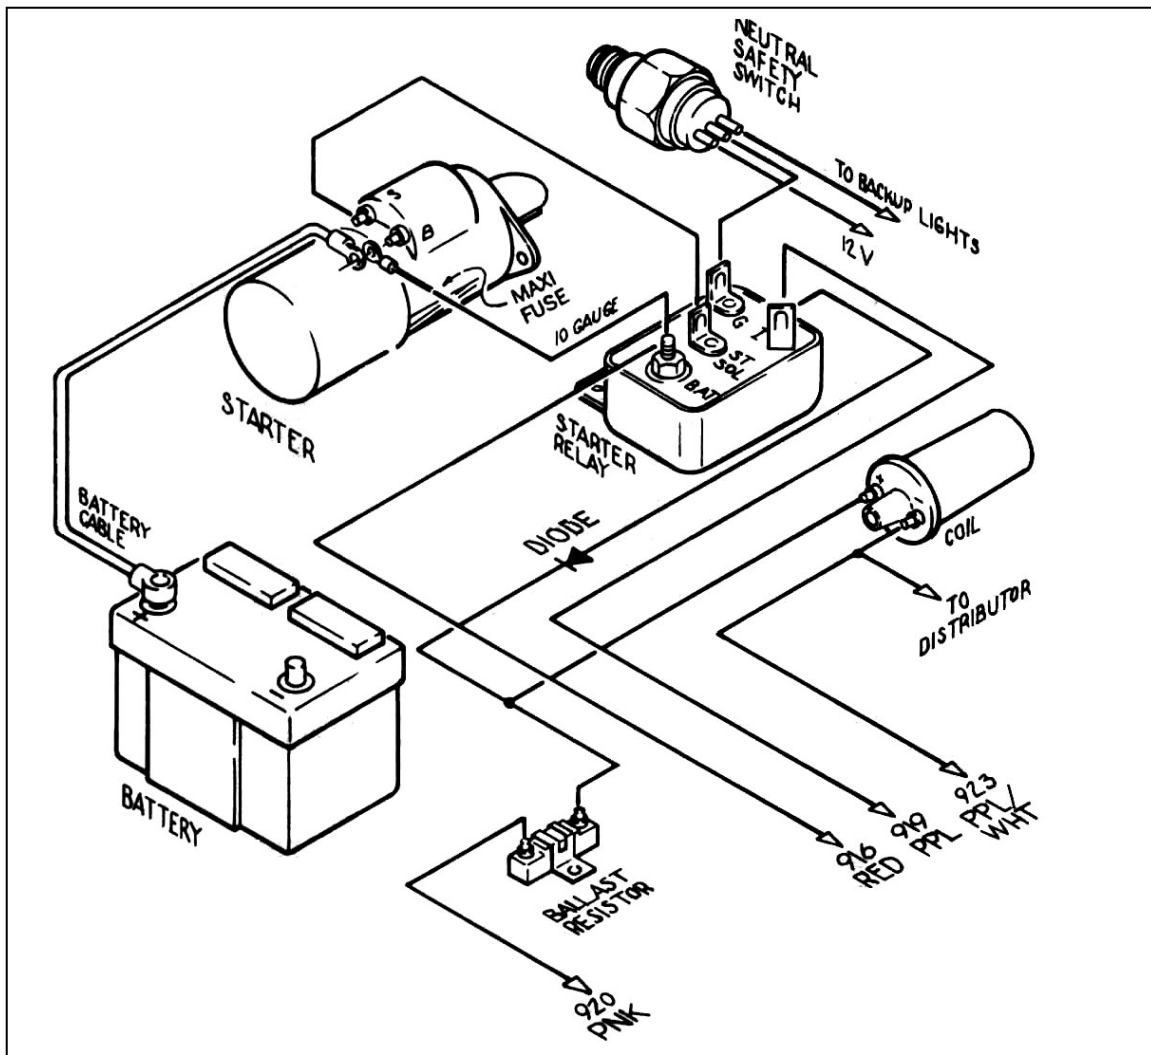

Figure 4-2 Mopar Ignition (Start/Run) System
4.2 Mopar Ignition (Start/Run) System. See Figure 4-2
- 4.2.3** Connect a 14-gauge wire from the Starter Relay Ground (G) terminal to the center terminal of the transmission mounted Neutral Safety Switch. Older Mopar neutral safety switches have only one terminal. On newer switches, the two outside terminals are for backup lights. Use existing wiring to connect these two terminals as shown in **Figure 4-2**.
- 4.2.6** Connect a 14-gauge wire from the Starter Relay Ignition (I) terminal to the ignition coil side of the Ballast Resistor. This wire serves as a ballast resistor BYPASS during engine starting. You must add a diode (8 amp min., 100 PIV) to this wire as shown in **Figure 4-2**. If you are not using a ballast resistor, do not connect this wire.